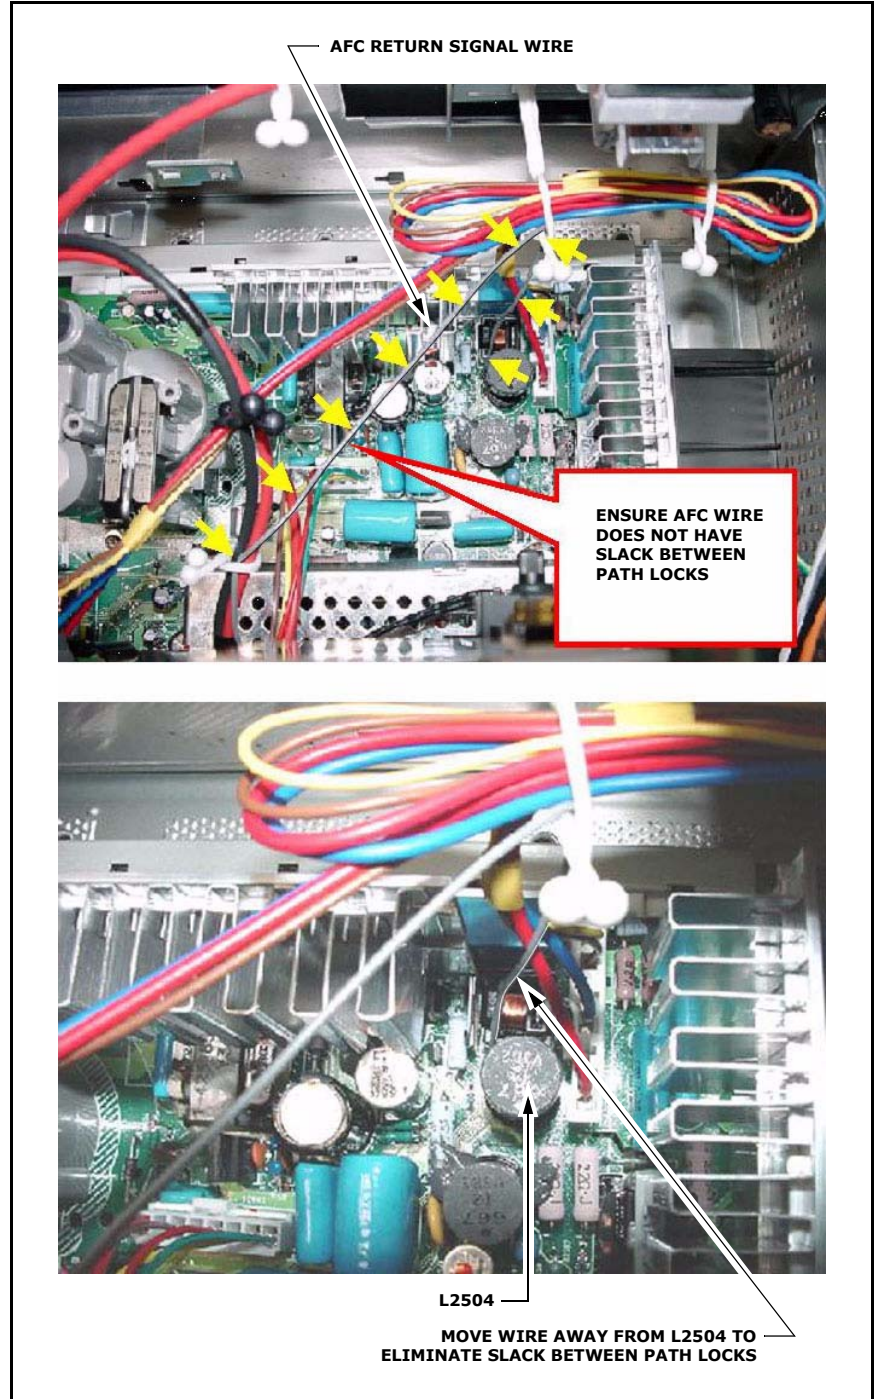

Figure 1
- Secure the AFC return signal wire (gray) soldered between L2504 (HLC) and IC515 (PWMIC) so that the wire does not contain slack and is kept away from L2504. (See Figure 1.)